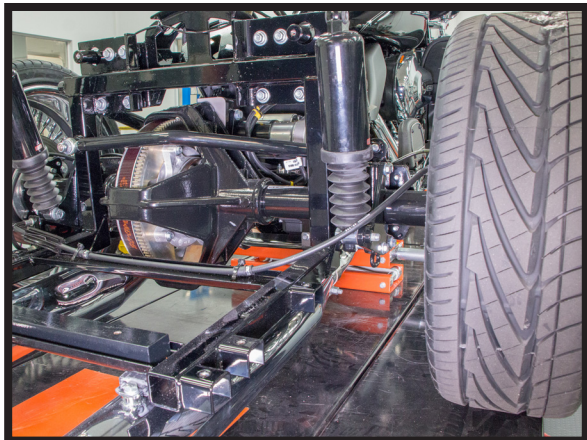

FIGURE 19
7. LOWER THE MOTORCYCLE THEN REMOVE THE LOWER SHOCK BOLTS. (FIGURES 19, 20)